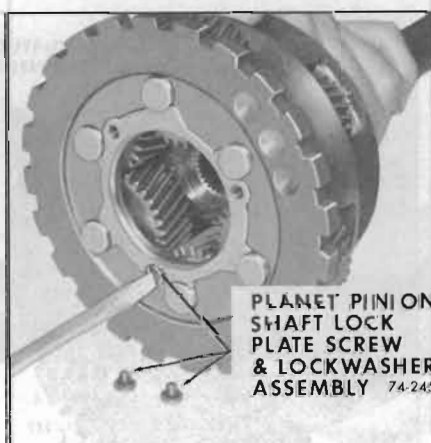

Figure 74-275
13. Install three (3) planet pinion shaft lock plate screw and lock washers. See Figure 74-275.